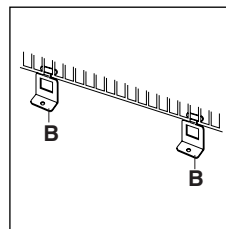

Fig. 1
2. Hang the convector on the two brackets fixed to the wall and insert metal brackets "B" into the bottom rear section of the base of the convector as indicated in figure 1, one at each end. Mark the positions for fixing these brackets to the wall. This bracket when fixed retains the base of the convector in a fixed position, preventing removal.